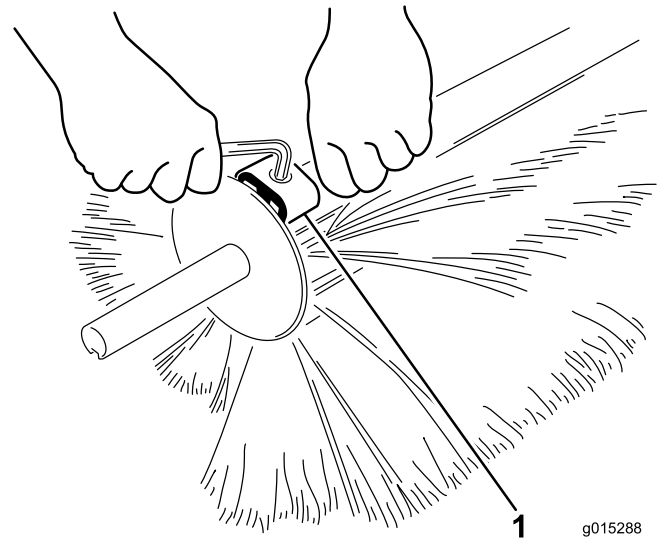

Figure 33
2. Loosen the clamps with an allen wrench and remove it from the brush halves (Figure 33).